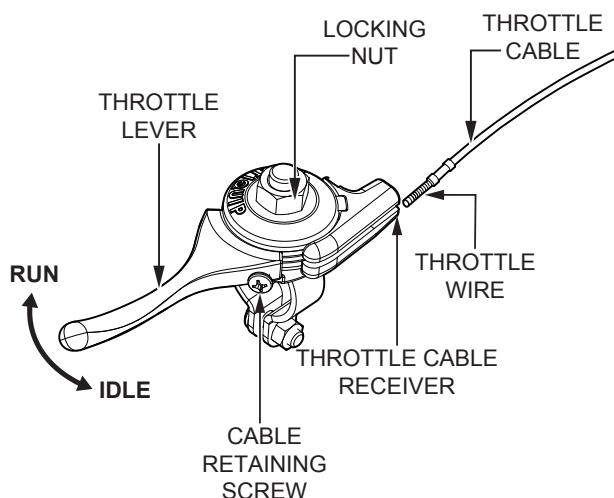

Figure 10. Adjusting Cable Tension
7. Slightly loosen the locking nut and cable retaining screw on the throttle lever (Figure 10).
8. Make sure the throttle cable is seated in the throttle cable receiver (Figure 10).
9. Route the throttle wire approximately ½ inch past the cable retaining screw (Figure 10). Tighten the cable retaining screw to secure the throttle wire.
10. Adjust cable tension as needed by loosening or tightening the locking nut and cable retaining screw on the throttle lever (Figure 10).